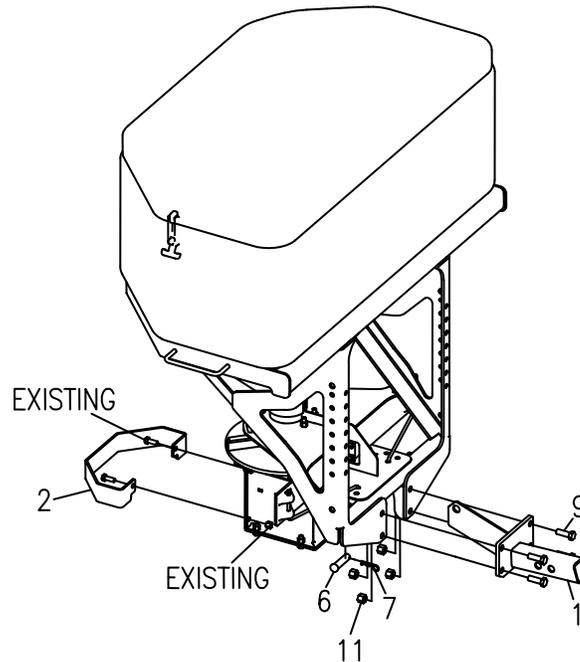

Figure 3. Slide-In Attachment Installation Procedure
1. Refer to Figure 3. Mount Slide-In Attachment (1) to Spreader using four 1/2"-13 X 1-1/2" Hex Head Bolts (9), four 1/2"-13 Nylon Lock Nuts (11), one 5/8" X 2-1/2" Clevis Pin (6), and one #16 Cotter Hairpin (7).
2. Mount Spinner Protector (2) using existing 3/8"-16 X 1" Hex Head Bolts and 3/8"-16 Nylon Lock Nuts as shown in Figure 3.